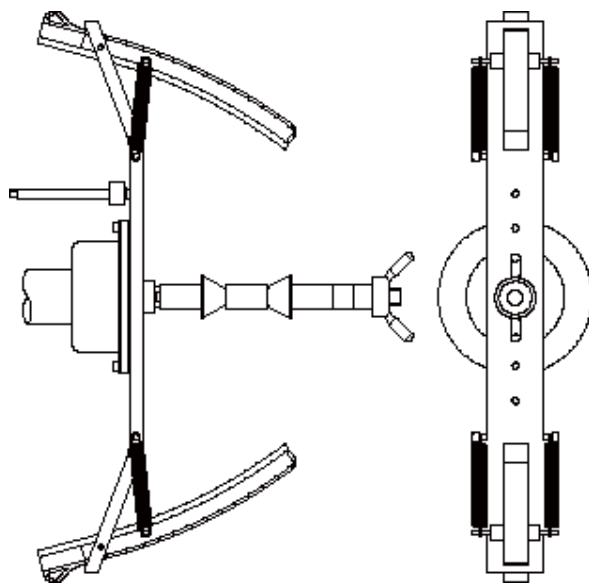

Fig. F4.2 Application of sample weight on the internal side of the motorcycle flange on the shaft (Cal2 phase)
8. At the end of the launch, the machine will display the writing h 1 2 C A L . Apply the calibration weight on the internal side as shown in Figure F4.2. The calibration weight is to be applied on the hole that has the writing “CAL” marked on it;
9. Bring the motorcycle flange in perfect vertical position with the calibration weight at the top part as shown in figure F4.2 and press the [P8]  Start or lower the wheel guard.